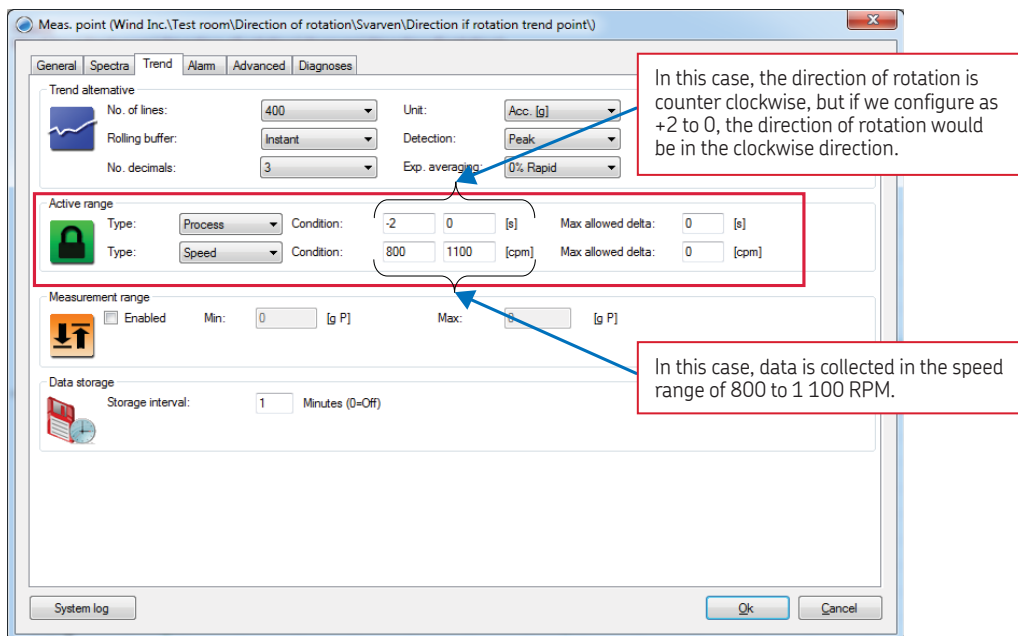

Fig. 11. An example of the "Active range" settings on the vibration measurement point.
- Also see the necessary settings for the "Active range" in the **Trend** tab (→ **fig. 11**).